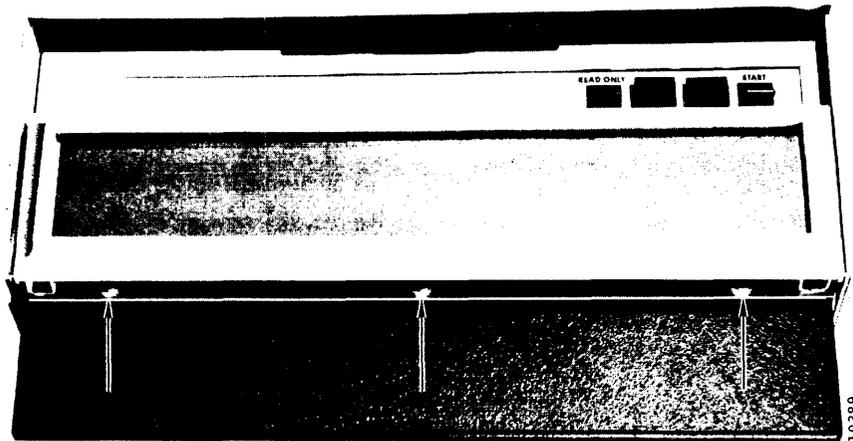

Figure 1-5. Front Cover Thumbwheel Nut Locations
1. The front cover of the unit is removed by unscrewing the three thumbwheel nuts underneath the front-end bezel (Figure 1-5) and then pulling the cover straight forward until clear of the unit. (See Figure 3-29 for exploded view.)